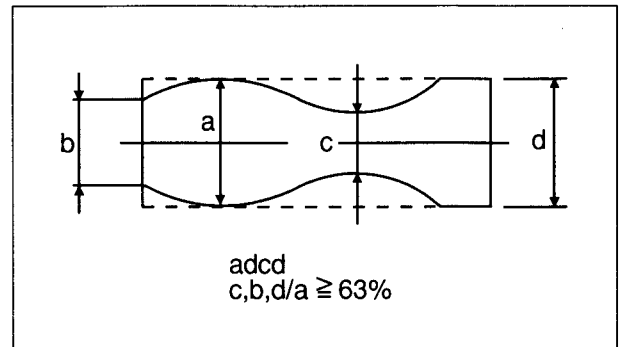

Fig. 4-68 Envelope Waveform
4. Make sure that the video envelope meets the specifications of Fig. 4-68 (especially for minimum values).
5. If Section A in Fig. 4-68 does not meet the specification, adjust the S-guide Roller up or down.
6. If Section B in Fig. 4-68 does not meet the specification, adjust the T-guide Roller up or down.